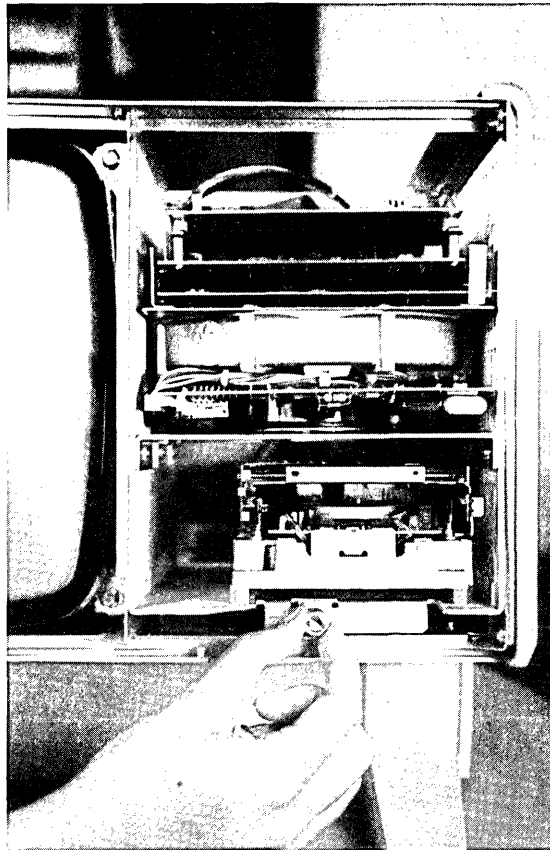

FIGURE 6
4. Loosen the thumbscrew at the base of the disk drive carrier by turning it counterclockwise. (See Figure 6.)